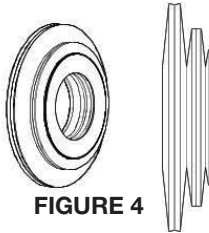

FIGURE 4
10. The outer diameters of the springs must contact each other as shown in **Figure 4**.